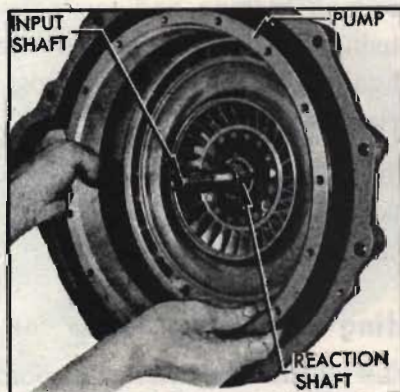

Fig. 26. Removing converter pump
8. Grasp converter pump firmly and pull straight out (Fig. 26). Examine immediately for evidence of oil leakage.